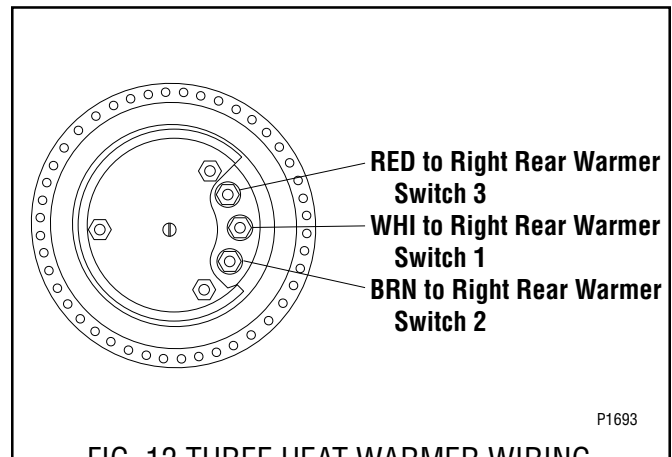

FIG. 12 THREE HEAT WARMER WIRING
4. Refer to FIG. 12 when reconnecting the wires.